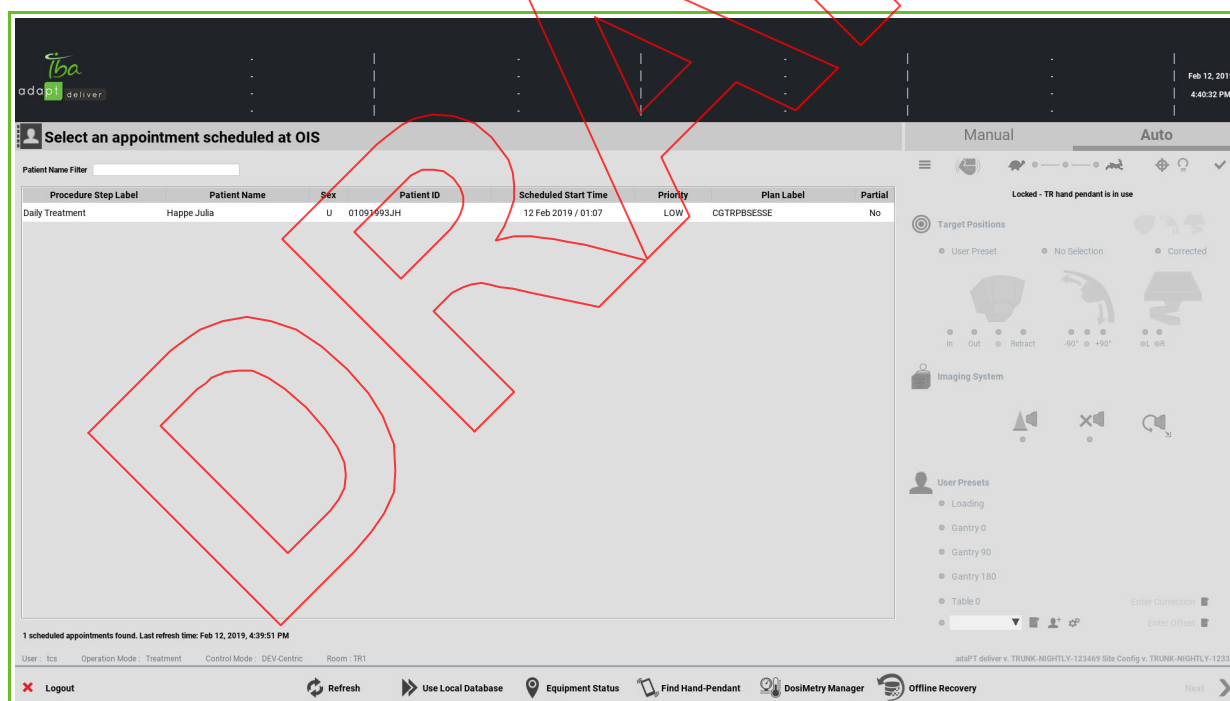

Figure 40-1. Appointment Selection Screen
3. Click on the corresponding line in adaPT~~deliver~~ to select it, and then click **Next** (Figure 40-1).